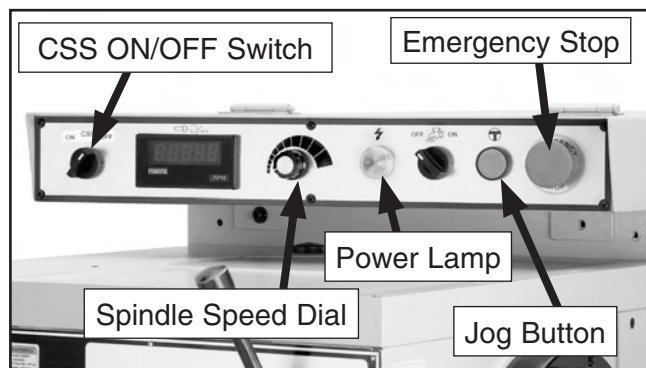

Figure 74. CSS switch, tachometer, and spindle speed dial.
10. Make sure the spindle speed dial is turned to its minimum, and make sure that the CSS switch (**Figure 74**) is in the **OFF** position.